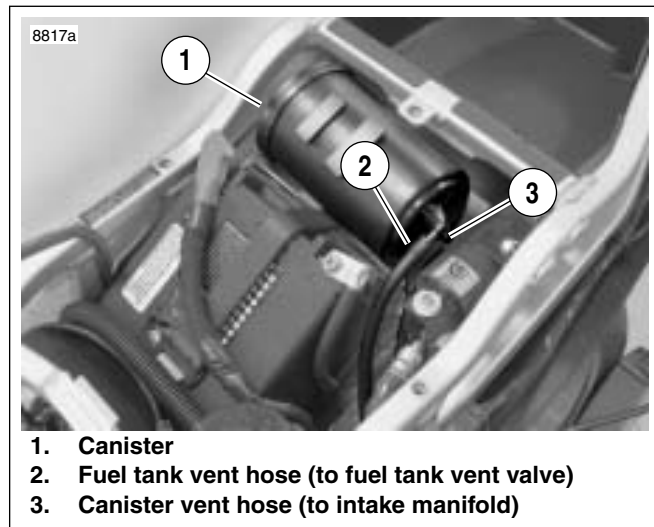
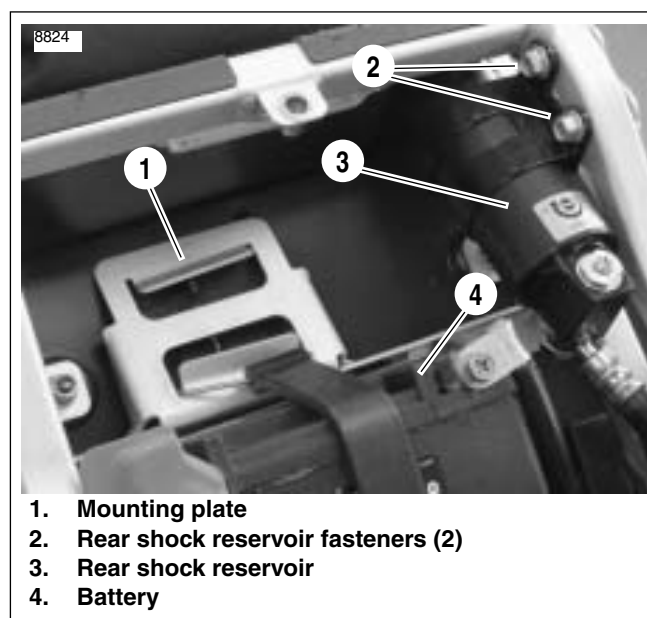

Figure 4-124. Carbon Canister Installation.
Figure 4-126. Carbon Canister Mounting
2. See Figure 4-124. The canister assembly mounts behind the battery in the tail section.
3. Label and disconnect the fuel tank vent hose (2) and canister vent hose (3) from the canister.
4. See Figure 4-126. Remove rear shock absorber reservoir fasteners (2). Move reservoir assembly away from canister.
5. Slide canister towards left side of vehicle to disengage from mounting plate (1).
2. See Figure 4-124. Attach fuel tank vent hose (2) to canister if disconnected.
1. See Figure 4-126. Slide canister into position on canister mounting plate (1).
2. Place rear shock reservoir assembly (3) into position.
3. See Figure 4-126. Install reservoir mounting fasteners (2). Tighten fasteners to 120-144 in-lbs (13.6-16.3 Nm).
4. See Figure 4-124. Connect two hoses to the canister. Make sure to push hoses all the way on to carbon canister fittings.